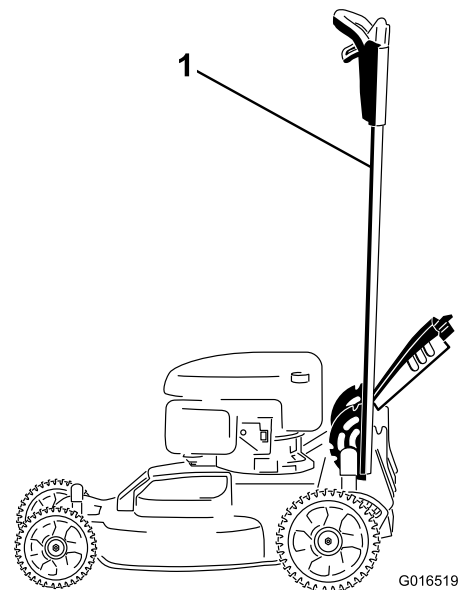

Figure 41
1. Lock the handle in the vertical position (Figure 41); refer to Adjusting the Handle Height (page 10).